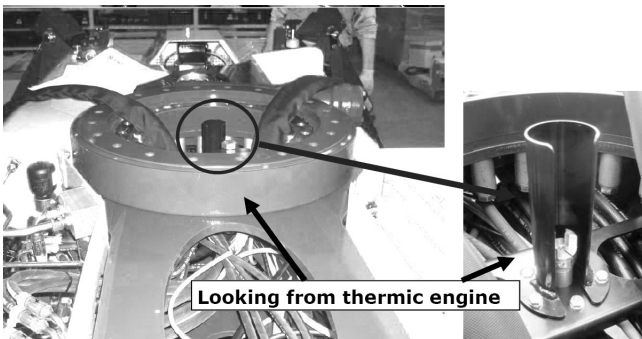

Figure 4-29.
6. Install the protective cover over the rotation sensor assembly using 3-6x16M TE screws and washers. Install cover with the open slot facing the engine end of the machine. See Figure 4-29.